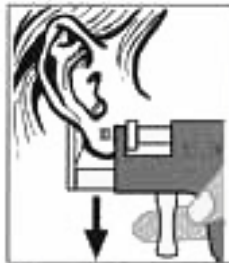

Figure 12
3. Release the trigger and carefully pull the Instrument straight down from the ear (Figure 12).